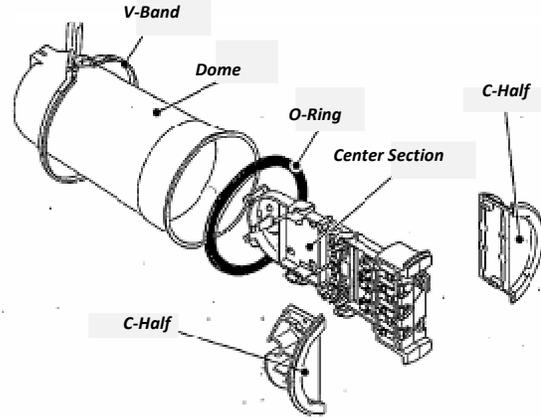

Figure 1 – Components of LG250 Fiber Optic Closure
1.01 The LG 250 Sealed Fiber Optic Splice Closure provides a unique, flexible fiber splicing system for Fiber-in-the-Loop or distribution splicing. Typical types of cables that can be used in this closure are: central core shielded, central core dielectric, loose tube shielded, loose tube dielectric, ribbon shielded, ribbon dielectric. Also, the closure incorporated a unique cable clamp design that secures the cable and allows the dome and C-Half sections to be removed with out disturbing previously installed cables. The LG-250 consists of five (5) main components. Refer to **Figure 1**.